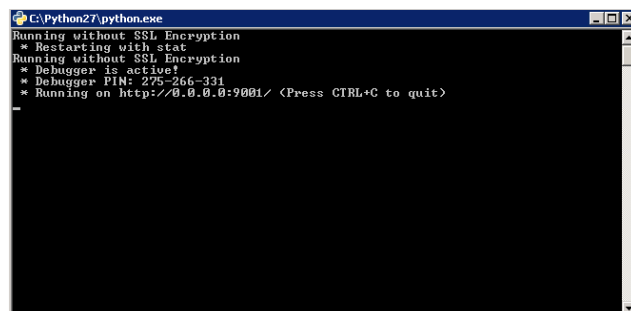

Figure. 1a: Python window
- The Python status window will appear as shown in Figure 1a.
- To stop the Python web server, select the running Python screen as shown in Figure 1a. Select "Ctrl + C"